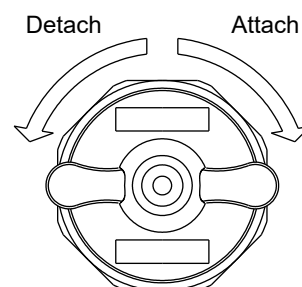

Fig. 1 Turning direction
(1) Disassembly
- ① Turn the nozzle tip counter-clockwise about 60° (Fig. 1) and detach it from the adaptor.
- ② The packing can easily be removed by inserting a finger, hooking it and pulling it out.
- ③ [For INJJX, INJJX-Y series only]